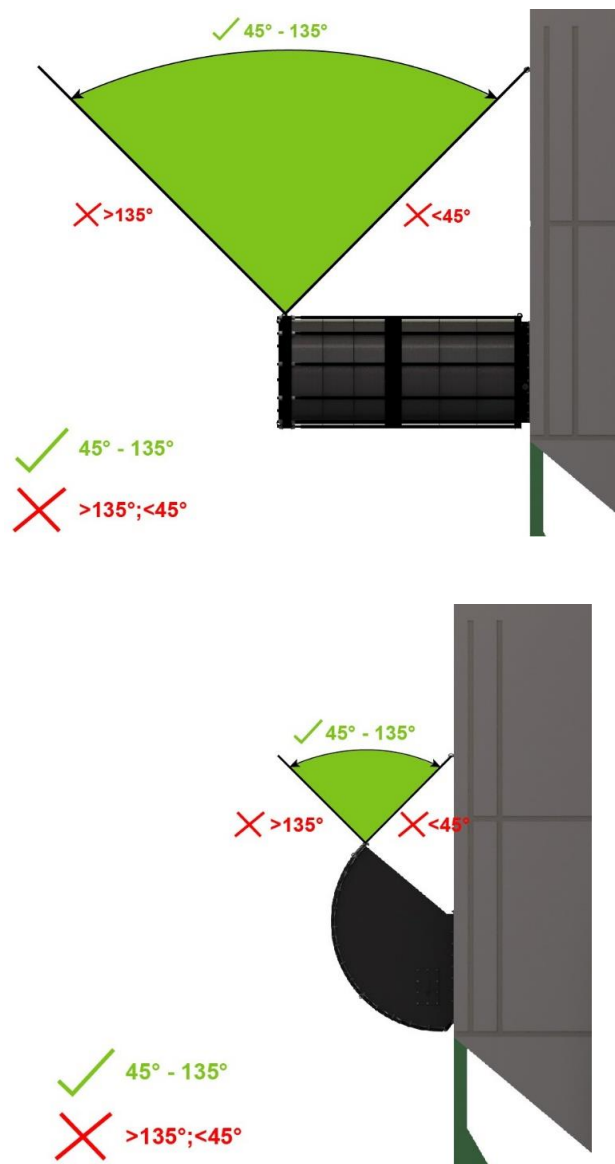

Figure 2 - Permissible position of anchoring eyes
2. Nut with eye DIN 582, size according to Table 1. Select the position according to Fig. 2 so that the rope is not less than 45 ° from the horizontal plane and no more than 135 °. The eye must be secured in such a way as to be able to pass the reaction in the rope (see Table 1), without damaging the object to which it is fastened. Advantageously, the eye is anchored to the protected technology itself, to the ceiling or other suitable strength-compliant structure according to the above table.
4. The rope clamp, EN 13411-5, is used to create a loop and attach it to the FLEX PRO (S), the anchor eye or the tensioner. The loop must be created with a number of clamps. The table 1 shows the number of rope clamps and the necessary spacing between the clamps.